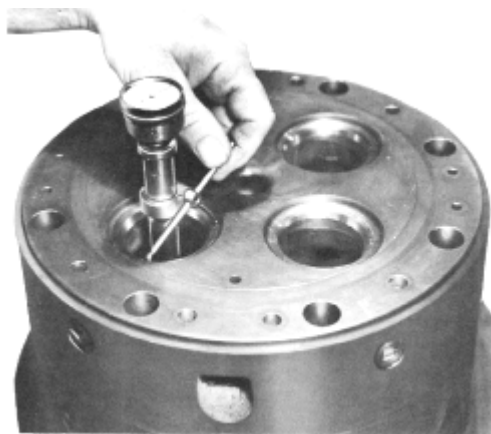

Fig. 2-16 - Checking Valve Seat Roundness
11. Use dial indicator included in the valve seat reconditioning set to measure trueness of valve seat. Place indicator over pilot, Fig. 2-16, and adjust so indicator is depressed slightly and